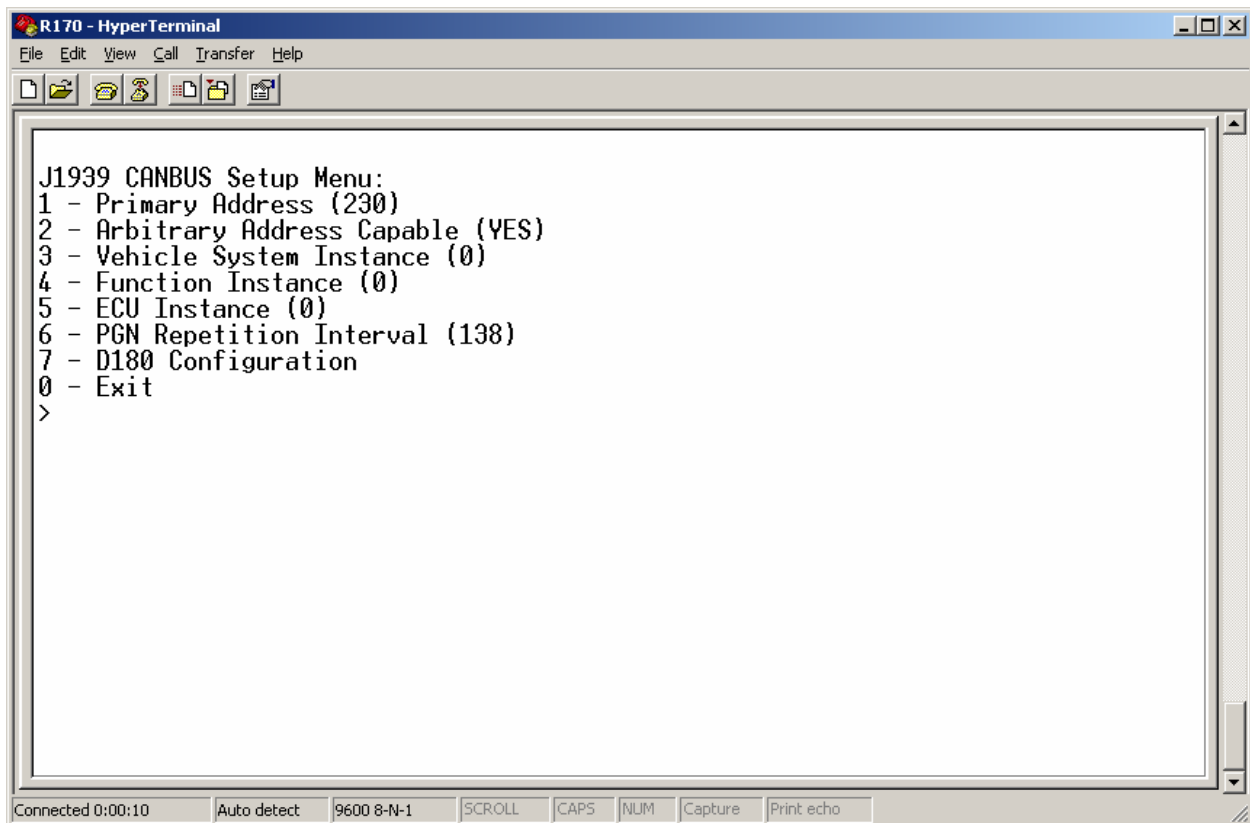

Figure 7 J1939 CANbus Setup Menu
2. Continue to hold BUTTON2 until the STATUS and CAN1 lights begin to flash green quickly. When this occurs, release the button to enter J1939 CANbus Setup Mode. A menu will be displayed in your communications program as shown in Figure 7.